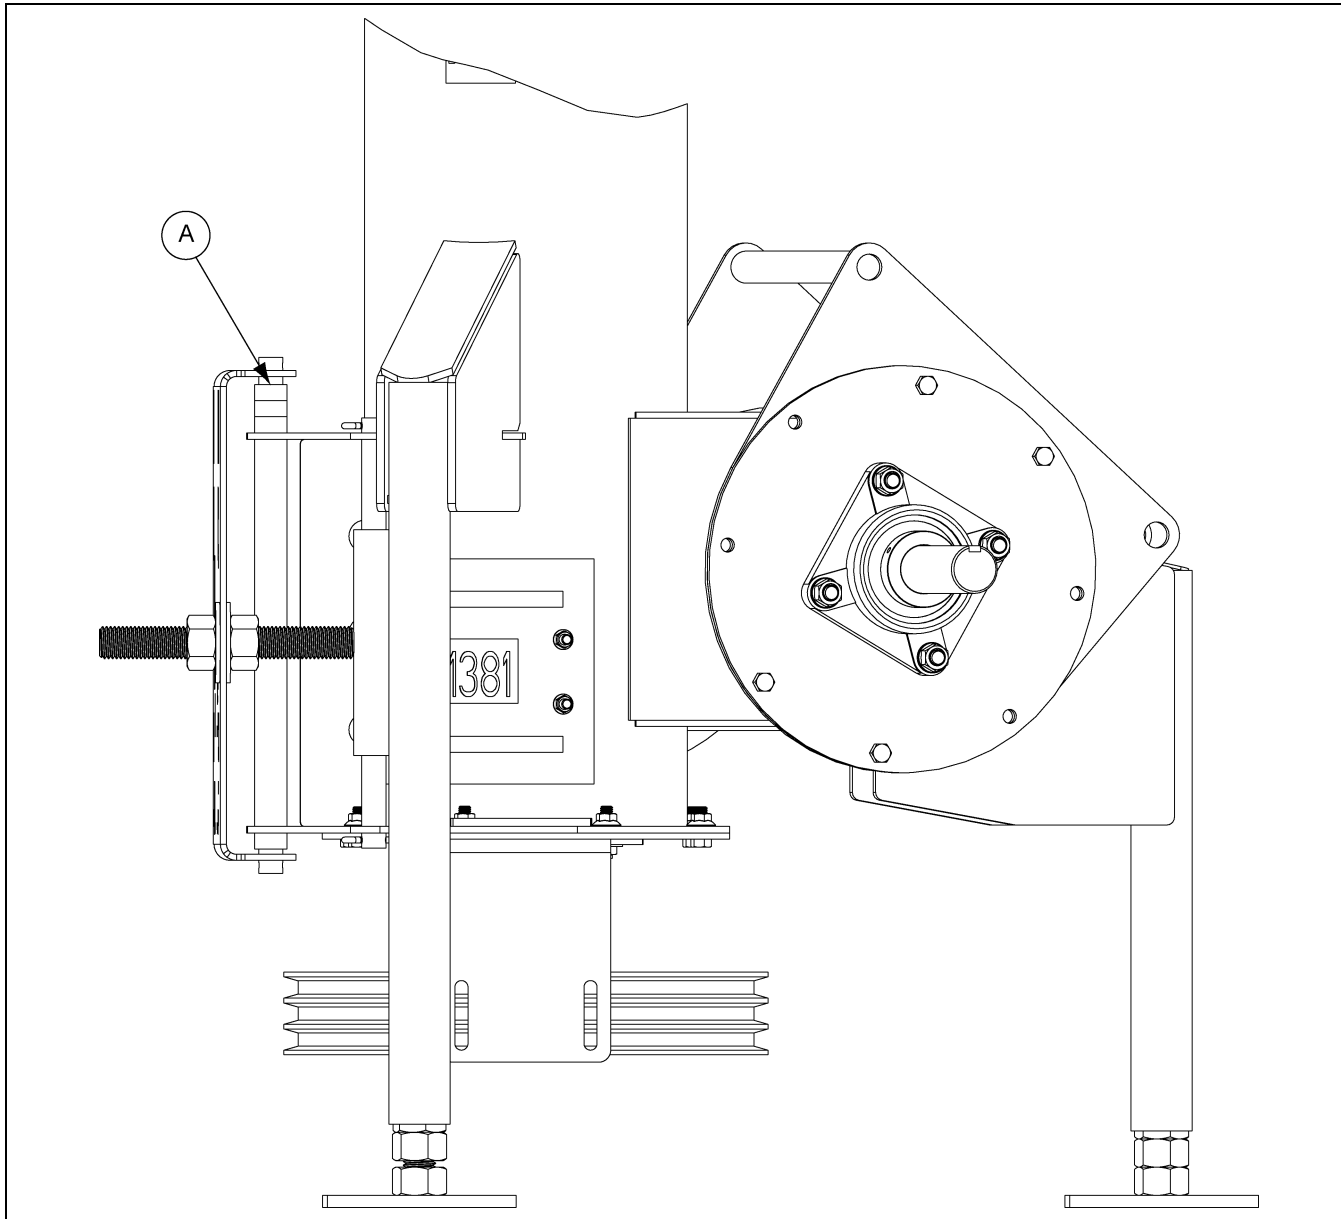

Figure 3Q
- B. Install pulley onto motor shaft and make sure that it is aligned with the flight pulley. It may be necessary to move spacers to gain shaft alignment. (See Figure 3P below and Figure 3Q on Page 26.)